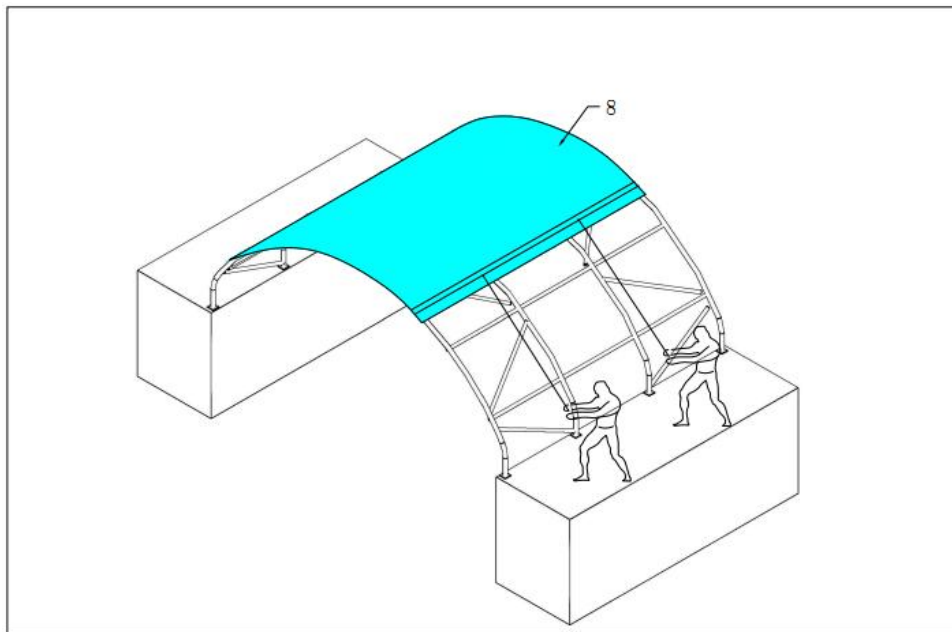

Figure 5
2. As **Figure 5 shown**, put the Roof cover (**part code 8**) **EVENLY, CARRFULLR AND SLOWLY** on the frame. Adjust the cover so that it is square and evenly centered on the frame.